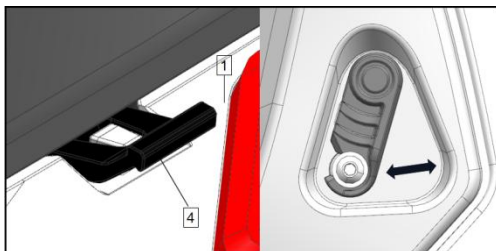

Fig. 30
1. Before clicking, turn the plastic fastener of the panel (position 2, Fig. 30) to unhook the fastener from the locking screw (position 3, Fig. 30).
- 2.Remove the rubber retainer from the connection with the side panel hook. (Pose 4, Fig. 30)